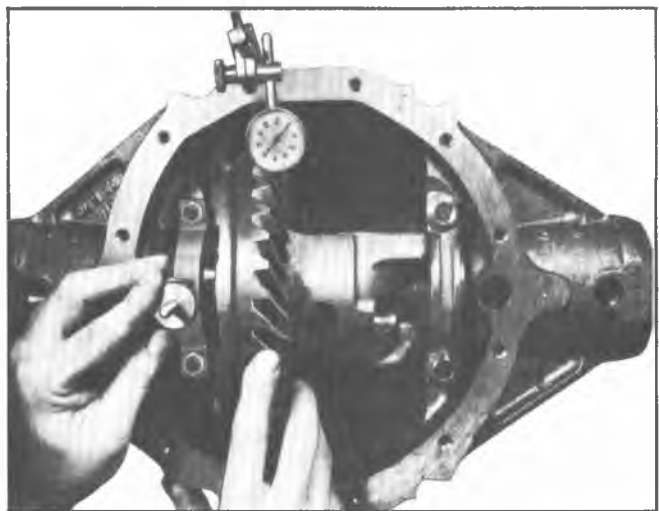

Fig. 6B—Installing Gauging Tool
4. With the ring gear tight against the pinion gear (.000" to .001" backlash) insert gauging Tool J-22779 between the left bearing cup and carrier housing as shown in Figure 6B.